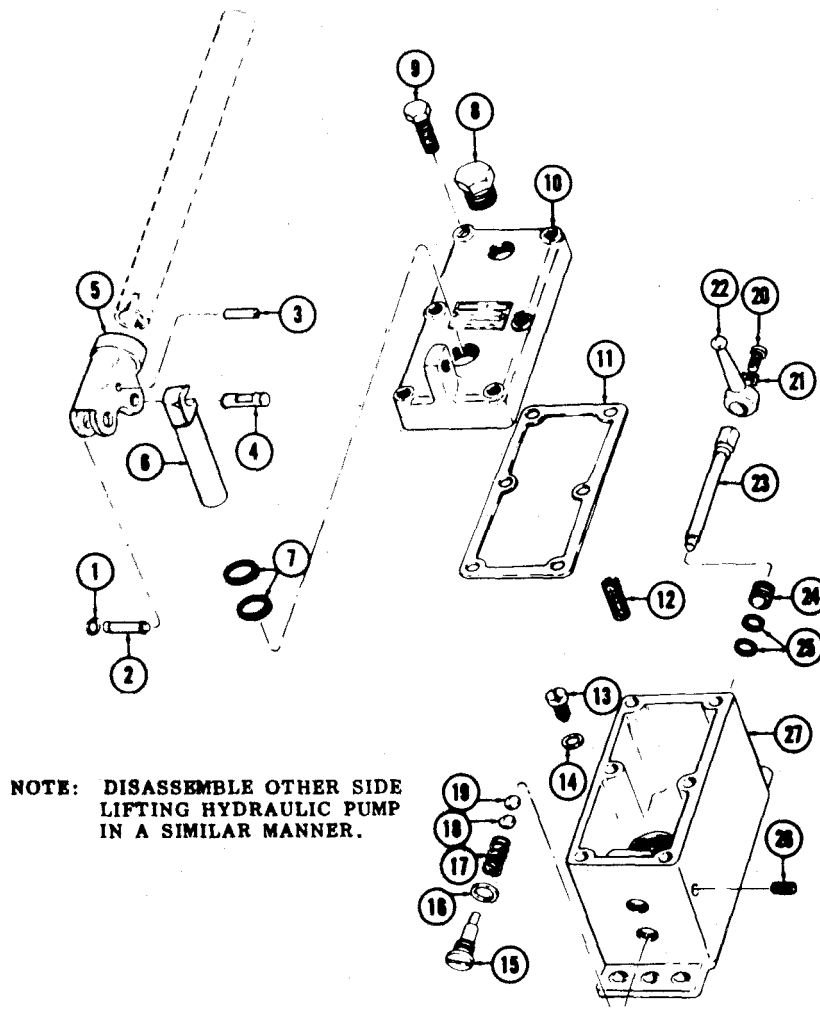

Figure 17-4. Hydraulic Pump, Exploded View.
- b. Disassembly. Disassemble the side lifting hydraulic pump as illustrated in figure 17-4.
- (1) Clean all metal parts with an approved cleaning solvent and dry thoroughly.
- (2) Inspect all metal parts for breaks, cracks, nicks, burrs, weak spring tension, damaged threads, and other defects.
- (3) Remove small nicks and burrs, and replace all damaged parts. Replace all packing and gaskets included in the repair kit.
LEGEND FOR FIGURE 17-4: